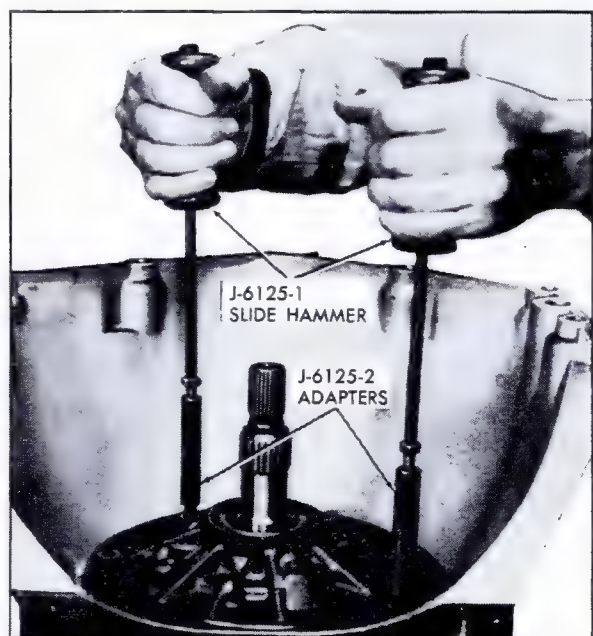

Fig. 7-51 Removing Pump Assembly
3. Install Slide Hammer Bolt, J-6125-1, and Adapter, J-6125-2, into other threaded hole at 10 o'clock or 5 o'clock position in pump body and drive outward with slide hammers to remove pump assembly from transmission case, Fig. 7-51.